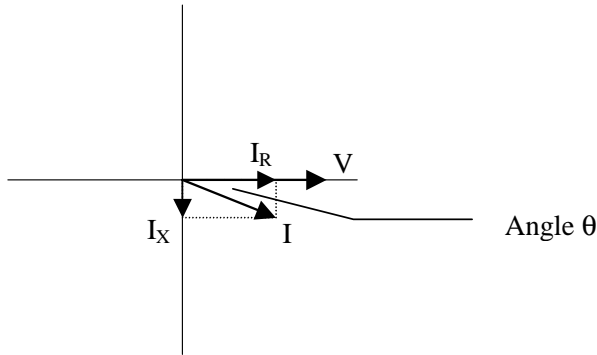

Figure 1.9: Voltage and complex current
- Real power (and energy) is the component of power that is the combination of the voltage and the value of corresponding current that is directly in phase with the voltage. However, in actual practice the total current is almost never in phase with the voltage. Since the current is not in phase with the voltage, it is necessary to consider both the inphase component and the component that is at quadrature (angularly rotated 90° or perpendicular) to the voltage. Figure 1.9 shows a single-phase voltage and current and breaks the current into its in-phase and quadrature components.
The quadrature current may be lagging the voltage (as shown in Figure 1.9) or it may lead the voltage. When the quadrature current lags the voltage the load is requiring both real power (watts) and reactive power (VARs). When the quadrature current leads the voltage the load is requiring real power (watts) but is delivering reactive power (VARs) back into the system; that is VARs are flowing in the opposite direction of the real power flow.
Displacement PF = $\cos \theta$, where θ is the angle between the voltage and the current (see Fig. 1.9).